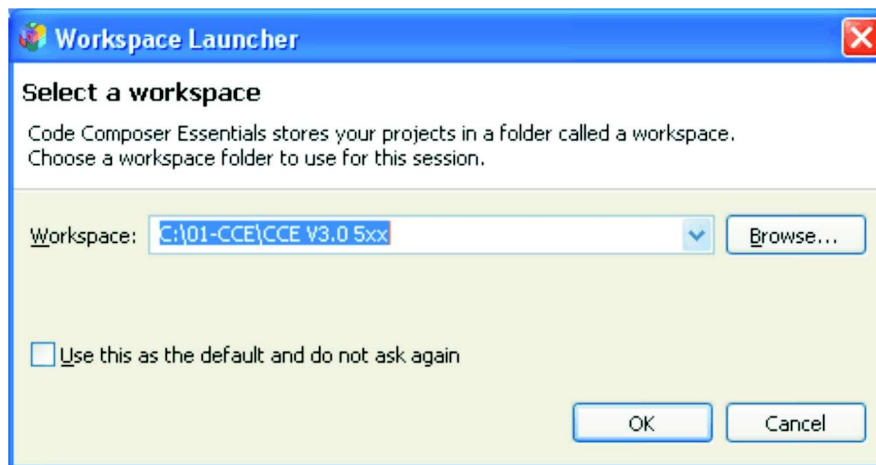

Figure 3-1. Selecting a CCS Workspace
5. Open CCS and select a workspace directory (see Figure 3-1).